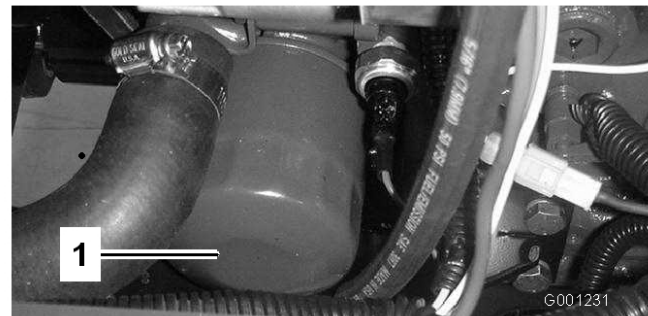

Figure 47
6. Remove and replace the oil filter (Figure 47).